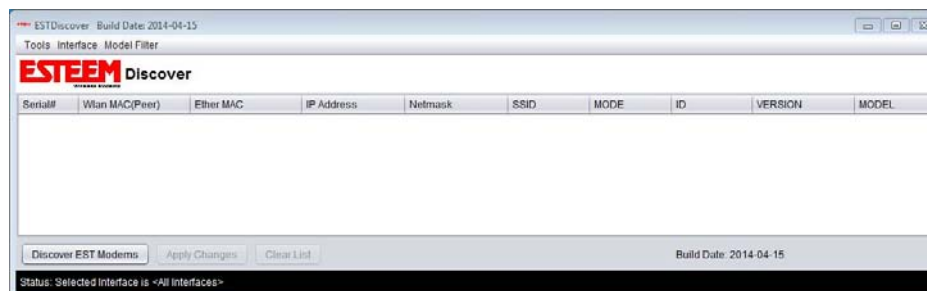

Figure 1: ESTeem Discovery Utility
2. Once both the above programs have been installed, save the ESTeem.exe file to any location on your computer such as the Desktop. Double click the ESTeem.exe program and Figure 1 will be displayed.